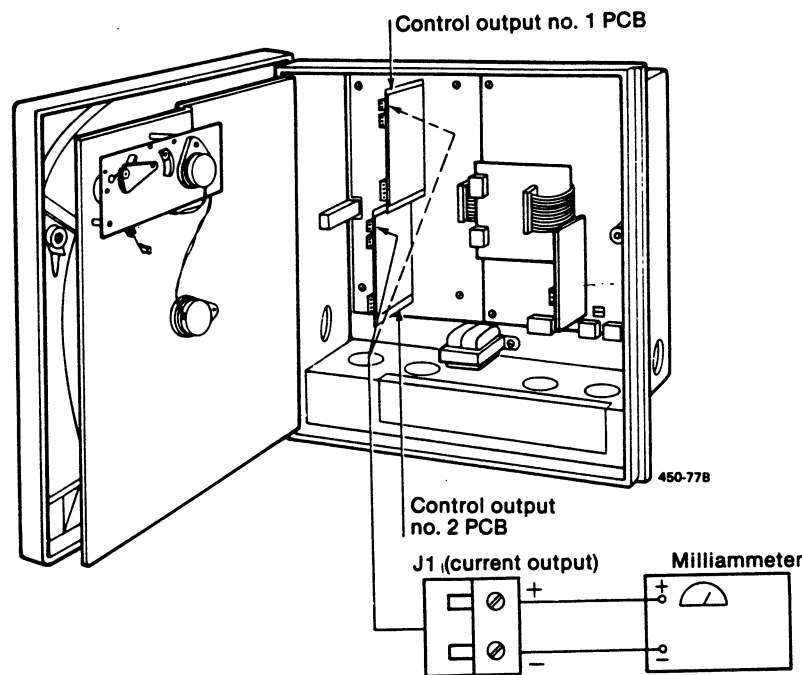

Figure 6-9 -- Test equipment connections for calibrating current proportional output
1. With power off, door open, and chart plate swung out; tag and disconnect field wiring from plug in connector J1 on appropriate control output PCB. (See Figure 6-9.)